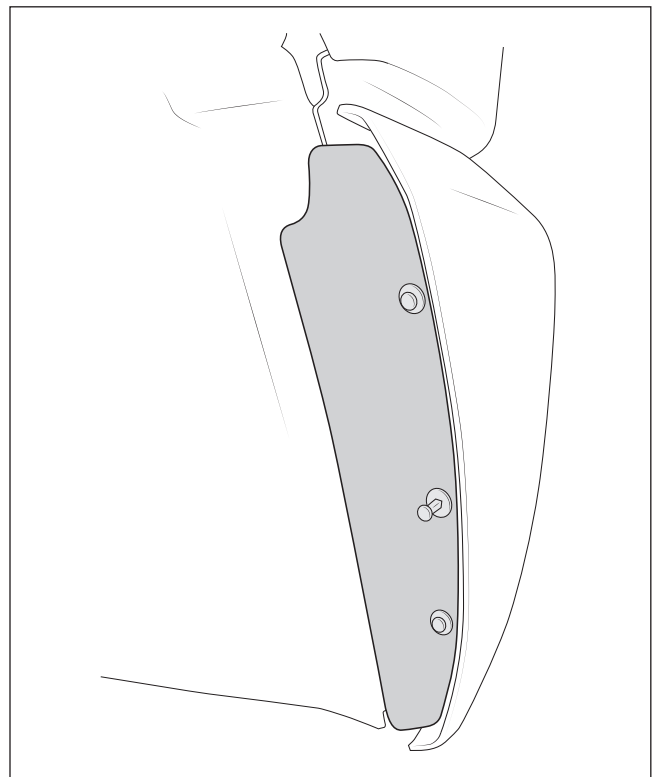

Figure 42
4. Install fender liner retainer plates (fig. 42).